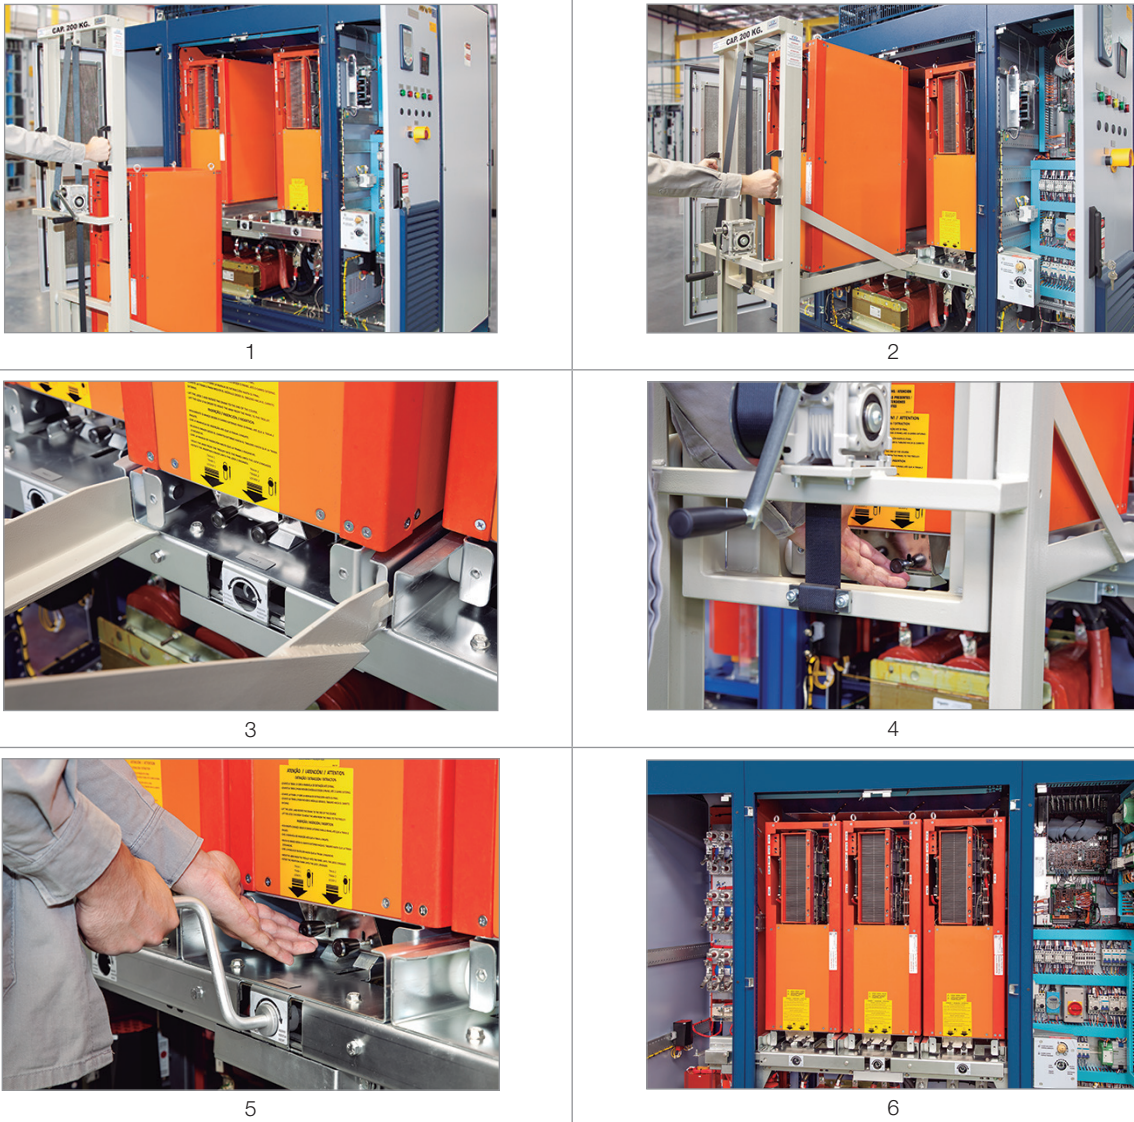

Figure 8.7: Details of the arm insertion stages
During the power arm transport, they must have the locking mechanism active and be transported close to the floor (Figure 8.7 on page 8-8 - picture 1).
3. Move the transport trolley close to the panel, lifting the power arm to the required height and insert the trolley tabs at the position shown in Figure 8.7 on page 8-8 - pictures 1, 2 and 3.
5. Release the lock that secures the arm to the trolley (Figure 8.7 on page 8-8 - picture 4) and push it observing the alignment of the wheels with the base in the panel.
6. The arm must be manually inserted until the locking system (locking pin) is activated (Figure 8.7 on page 8-8 - picture 5).
7. The final insertion stage is done using a crank handle, continuing the insertion to the point the second locking pin engages (Figure 8.7 on page 8-8 - pictures 5 and 6).